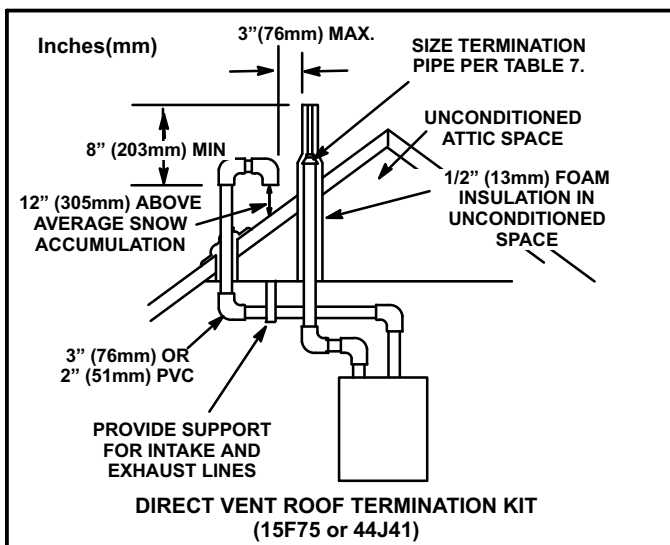

FIGURE 21
Intake and exhaust pipes may be routed either horizontally through an outside wall or vertically through the roof. In attic or closet installations, vertical termination through the roof is preferred. Figures 21 through 33 show typical terminations.
- 3 - On roof terminations, the intake piping should terminate straight down using two 90° elbows (See figure 21).